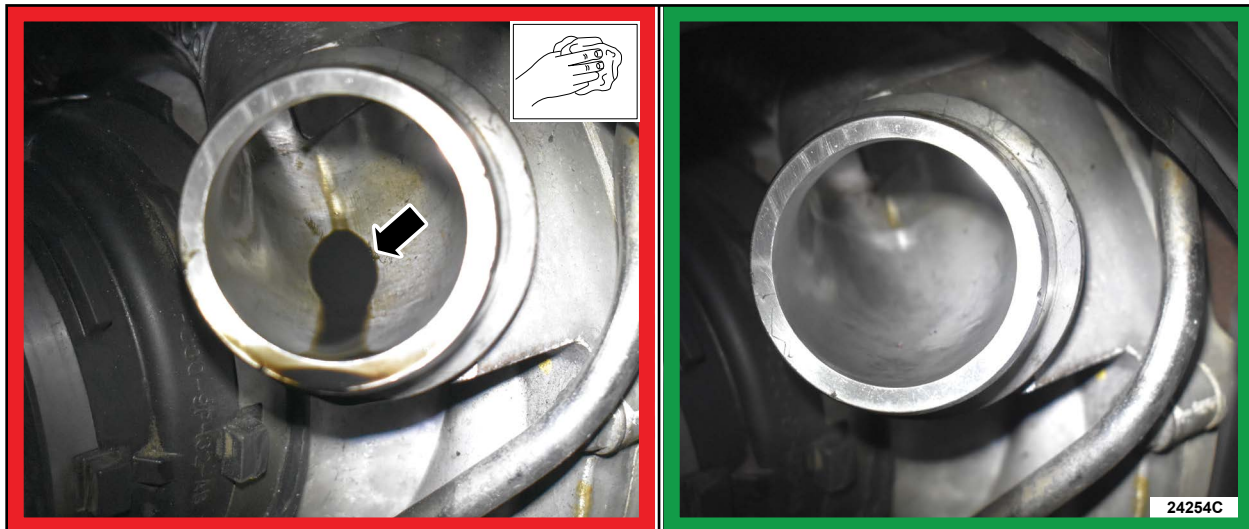

FIGURE 3
4. Clean any oil present in the turbo charger compressor outlet using a lint free rag. See Figure 3.